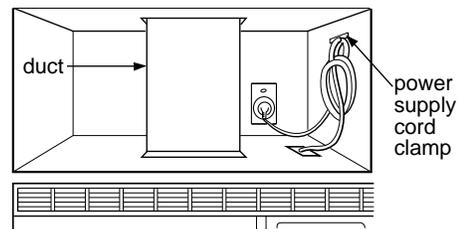

Figure 37
7. Roof venting installation: Install ductwork through the vent opening in the upper cabinet. Complete the venting system through the roof according to the method needed. See Figure 37. See PREPARE THE VENTING SYSTEM, STEP 2 on the page 37. Use caulking to seal the exterior roof opening around the exhaust cap. See Figure 6 on page 37.
8. Use the power supply cord clamp to bundle the power supply cord. Install the power supply cord clamp, using a screw as shown in Figure 37, to inside of the cabinet.